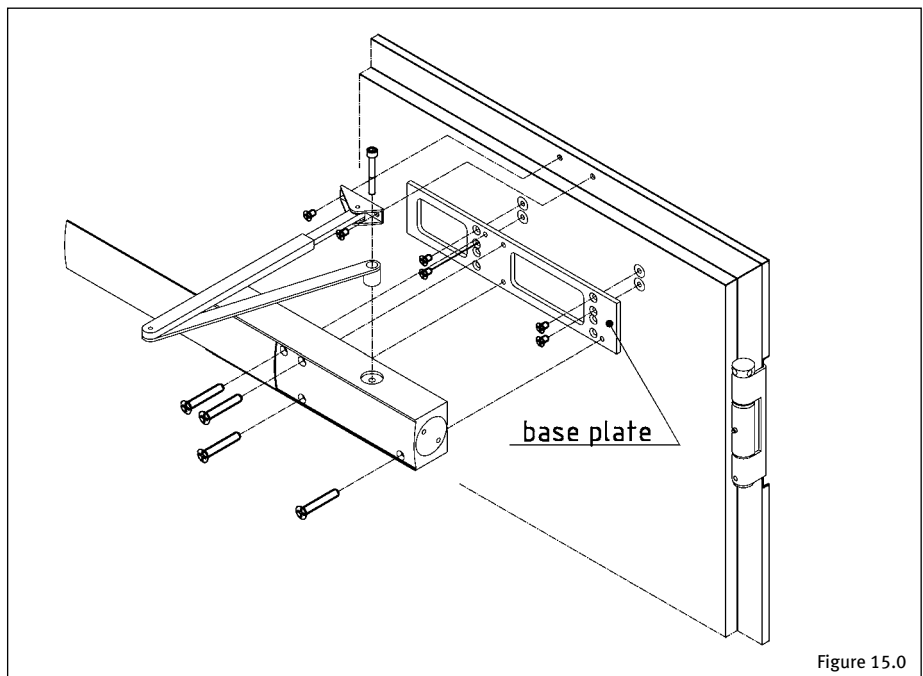

Figure 15.0
- 19.1 Fasten the mounting plate in the prefabricated threads on the door/ flap leaf as per Figure 15.0. If there are not any thread holes, drill them using the template on the door closer. **Watch mounting side.**